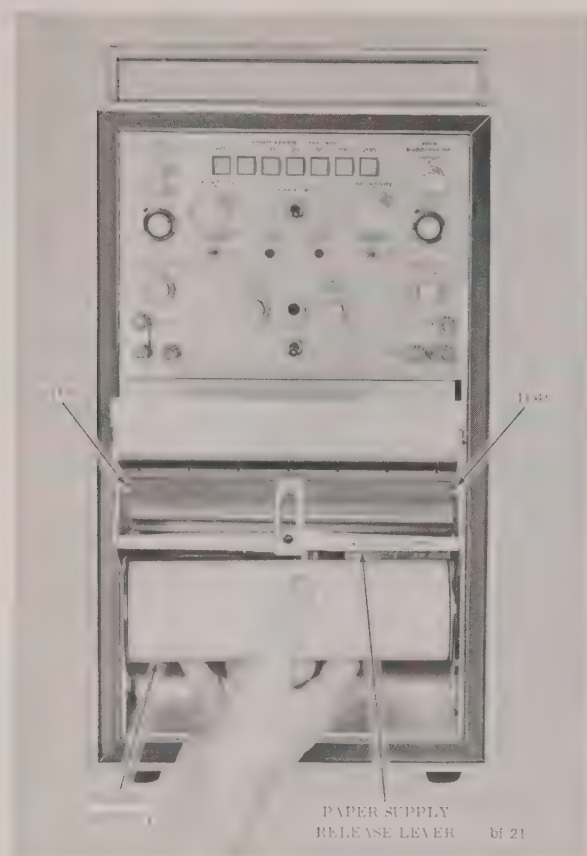

FIGURE 3-3. INSERT PAPER SUPPLY ROLL
3. Insert paper supply roll into writing table assembly and push paper supply release lever upward to lock paper supply roll in place (Fig. 3-3).